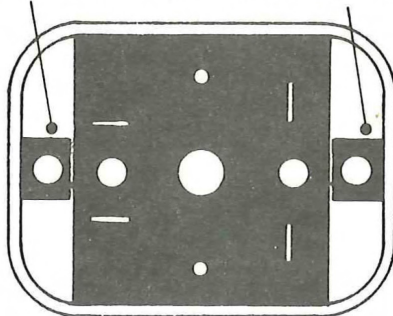

FIG. 1
- () 3. Carefully lift out plastic base by pulling up with the ground post. Be careful not to lose the two spacers indicated in Fig. 1.